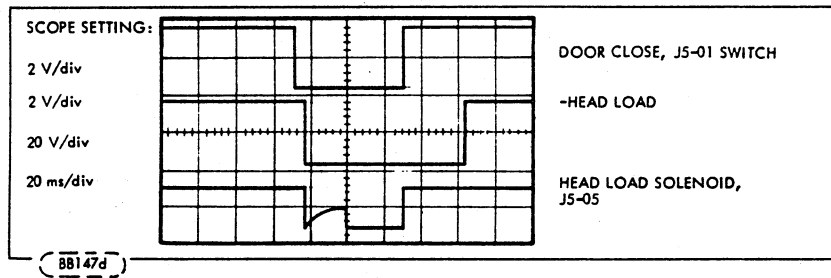

FIGURE 6-1. -HEAD LOAD AND DOOR INTERLOCK SWITCH
An improperly adjusted FDD may exhibit symptoms of one that has a malfunction; therefore, the Adjustment Procedures (paragraph 6.6) should be performed before assuming that the unit has failed. If the malfunction still exists after the performance of the adjustment procedures, consult Table 6-1 and the Troubleshooting Flow Charts for the symptoms observed, checks to be made, and action to be taken. Refer to Figure 6-1 for test points. Before troubleshooting is started, check all DC supply voltages.
c. Signals should conform to Figure 5-1 and Figures 6-1 through 6-4.